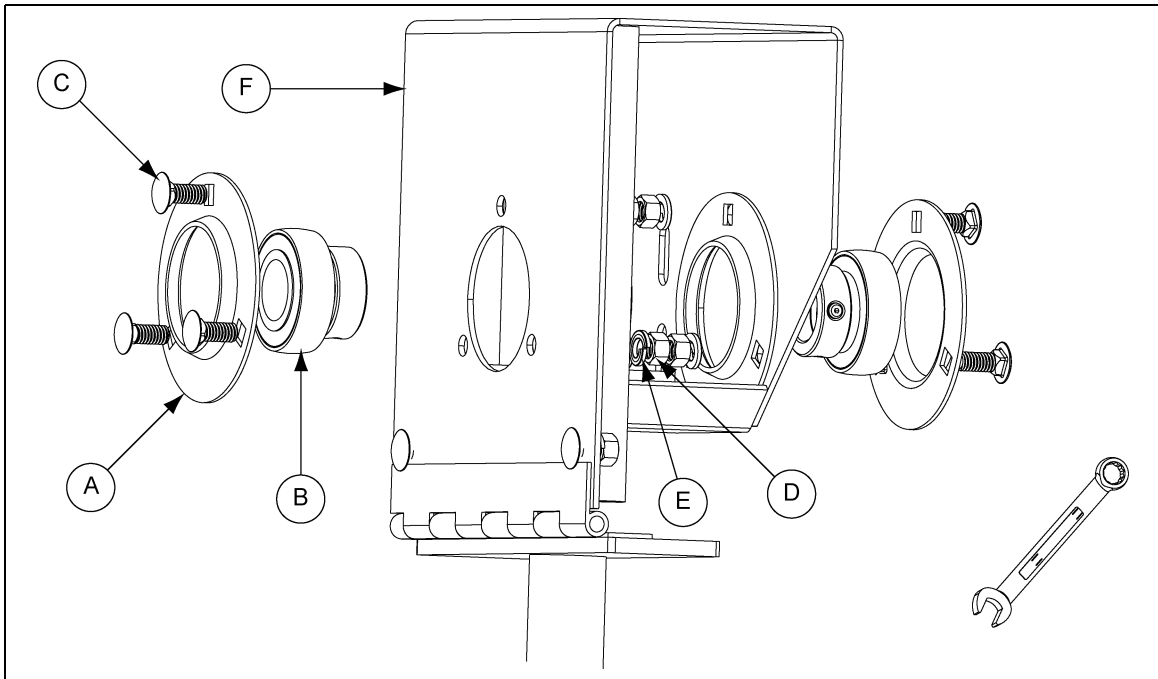

Figure 4A
Step 1: Fit flange bearings. (See Figure 4A.)